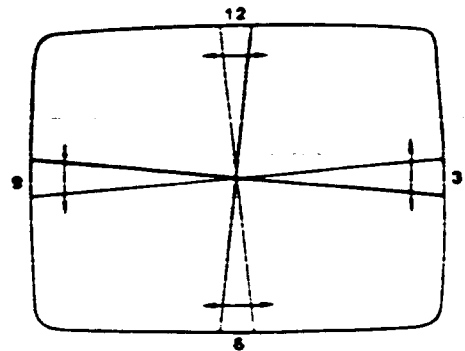

Figure 2 — Tilt yoke up or down to converge Red and Blue vertical lines at 6 and 12 o'clock positions, and Blue horizontal lines at 3 and 9 o'clock positions.
2. Tilt the yoke up and down to achieve the best convergence of the red and blue vertical lines at the 6 and 12 o'clock and the red and blue horizontal lines at the 3 and 9 o'clock positions (see Figure 2).